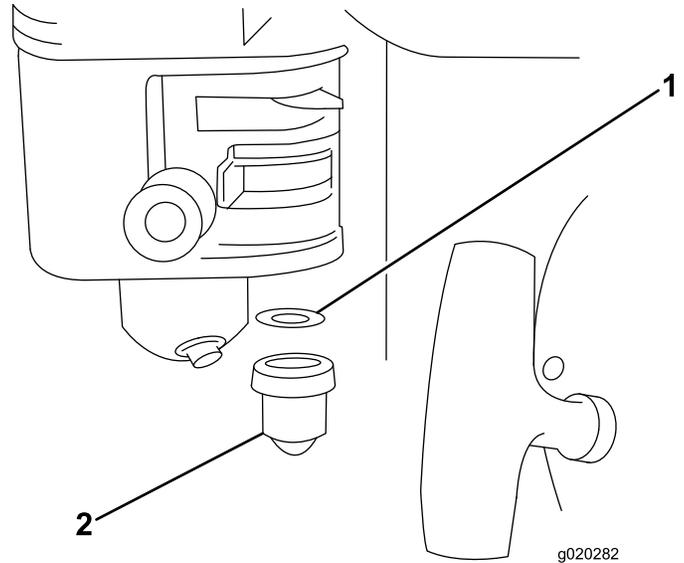

Figure 17
- Remove the sediment cup and O-ring (Figure 17).